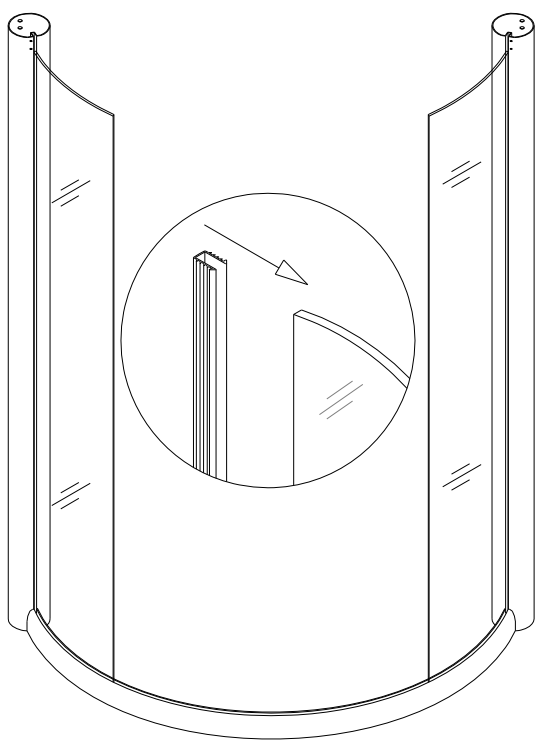
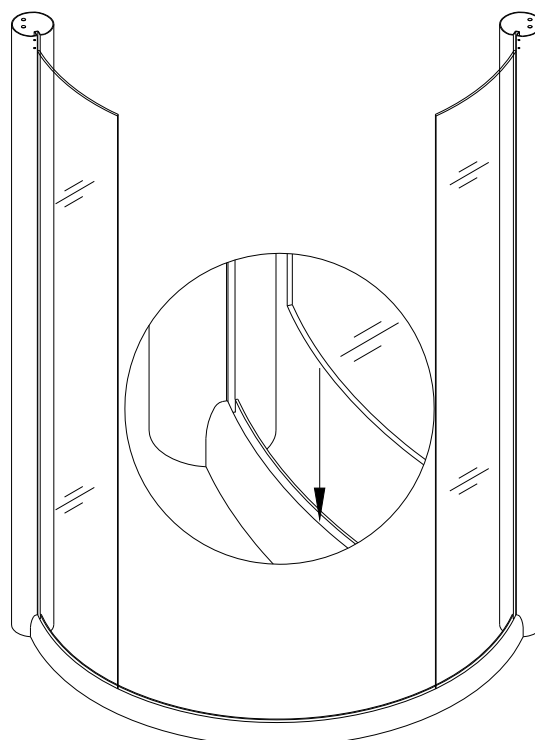

Fig 3
Fig 4
5. Place **U-shape seal gasket (12)** on the stationary glass side edge. Then press the stationary glass panel into the grooves of the guide rail and the vertical post (You can apply a liquid soap on the outside surface of the U-shape seal gasket to help to slide glass into the channel. See Fig 3 and Fig 4 for details.